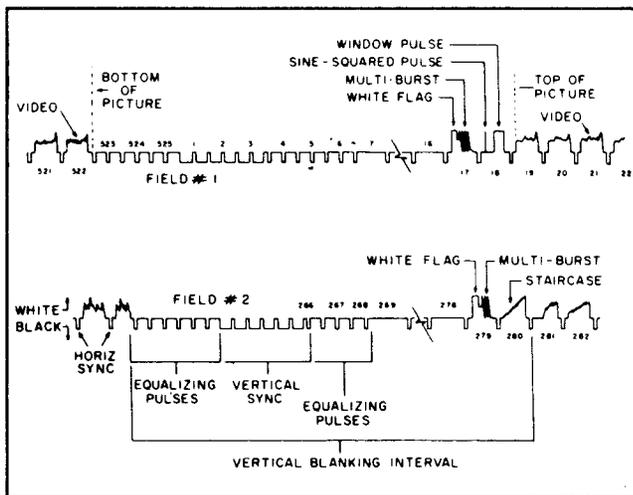

Fig. 21. Vertical blanking interval, showing typical VITS information.
8. Set the SWEEP TIME/CM control to the .1mS/CM position. This expands the display by increasing the sweep speed. The VITS information will appear toward the right hand portion of the expanded waveform displays. The waveform information on each trace may appear as shown in the drawing of Fig. 21. Because there is no provision for synchronizing the oscilloscope display to either of the two fields which comprise a complete vertical frame, it cannot be predicted which field display will appear on the Channel A or Channel B display.